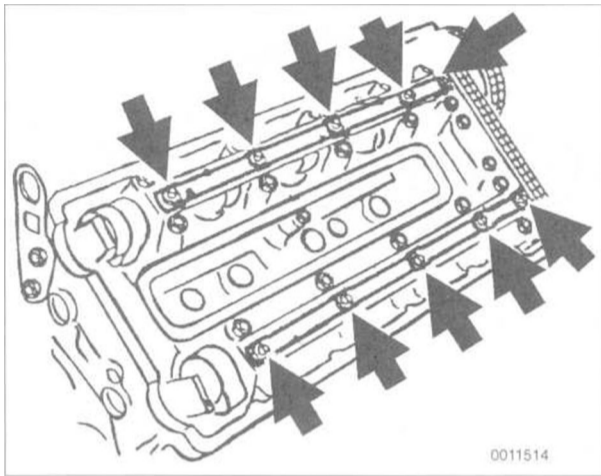

Fig. 32. Camshaft oil pipe mounting nuts (arrows) Remove pipes from both cylinder heads.
- Remove camshaft oil pipes from top of left and right cylinder heads. See Fig. 32.